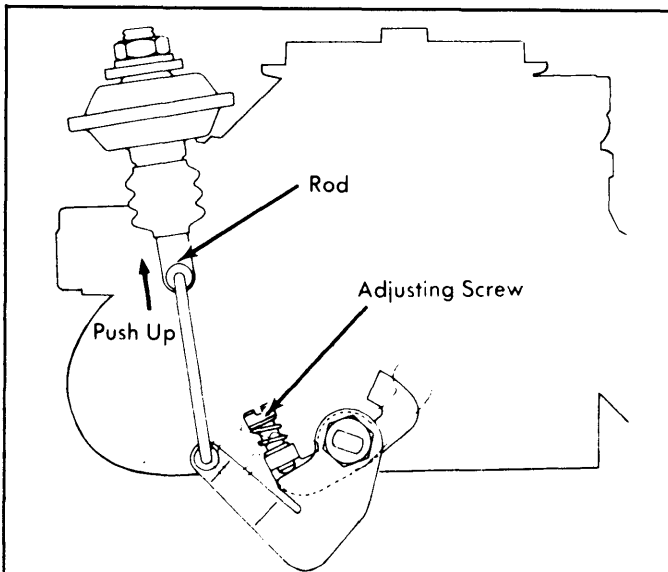

Fig. 3: Dashpot Adjustment
2) Quickly release dashpot when correct idle up RPM is obtained. Idle speed should decrease to idle drop RPM within 3-6 seconds. If not, turn dashpot adjusting screw. See Fig. 3.